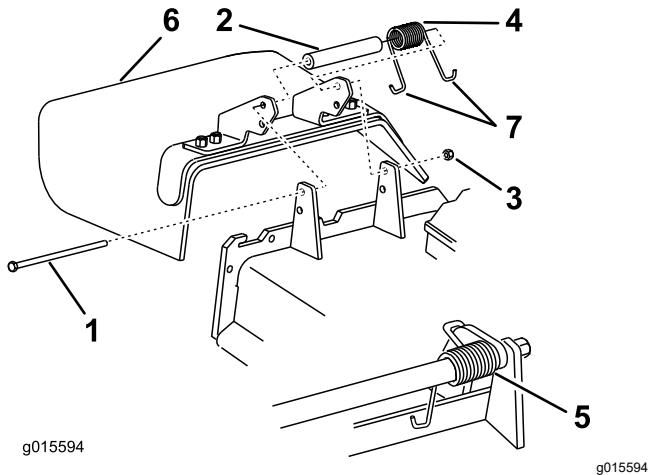

Figure 96
1. Remove the locknut, bolt, spring, and spacer holding the deflector to the pivot brackets (Figure 96).
2. Remove the damaged or worn grass deflector (Figure 96).
**Note:** Make sure that 1 J-hook end of the spring is installed behind the deck edge before installing the bolt as shown in Figure 96.
6. Place 1 J-hook end of the spring around the grass deflector (Figure 96).